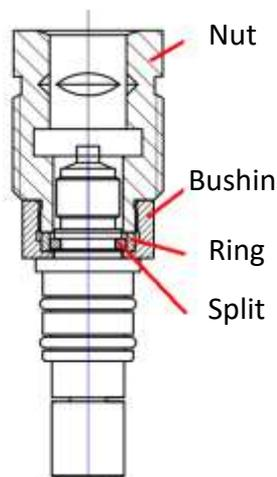

Figure 11
The installation kit and sensor are presented in Figure 11.
- place split cones inside the VMPL8.223.011 bushing and arrange them around the sensor circle at equal intervals (Figure 11);